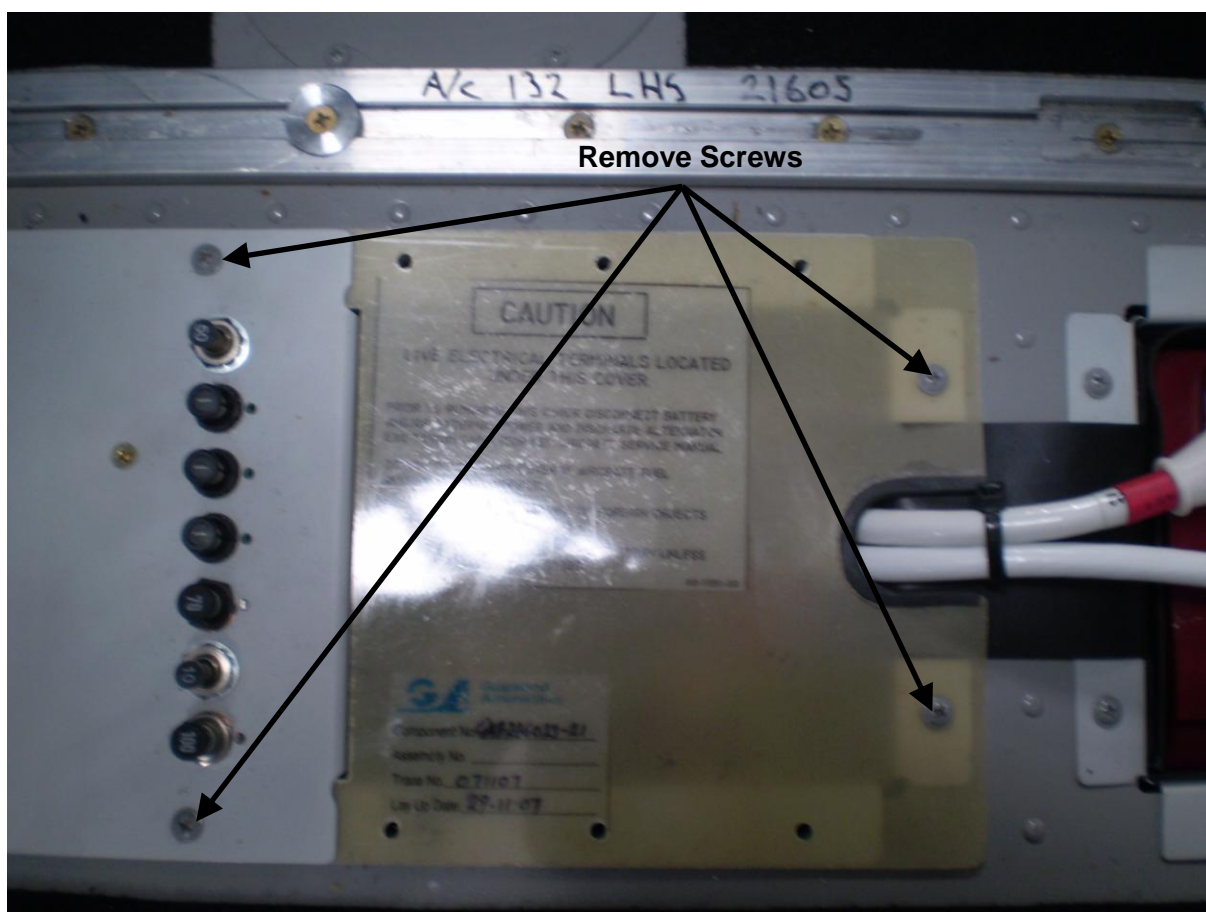

Figure 1 - Screws to be removed to gain access to internal assembly of the solenoid box
3. Gain access to the internal components of solenoid box by removal of screws as noted in Figure 1. Take care not to damage the heads of the screws when undoing them. Remove the fibre glass sheet. Refer to the GA8 Service Manual Section Chapter 24 taking specific note of the warning in Section 24-00-00.